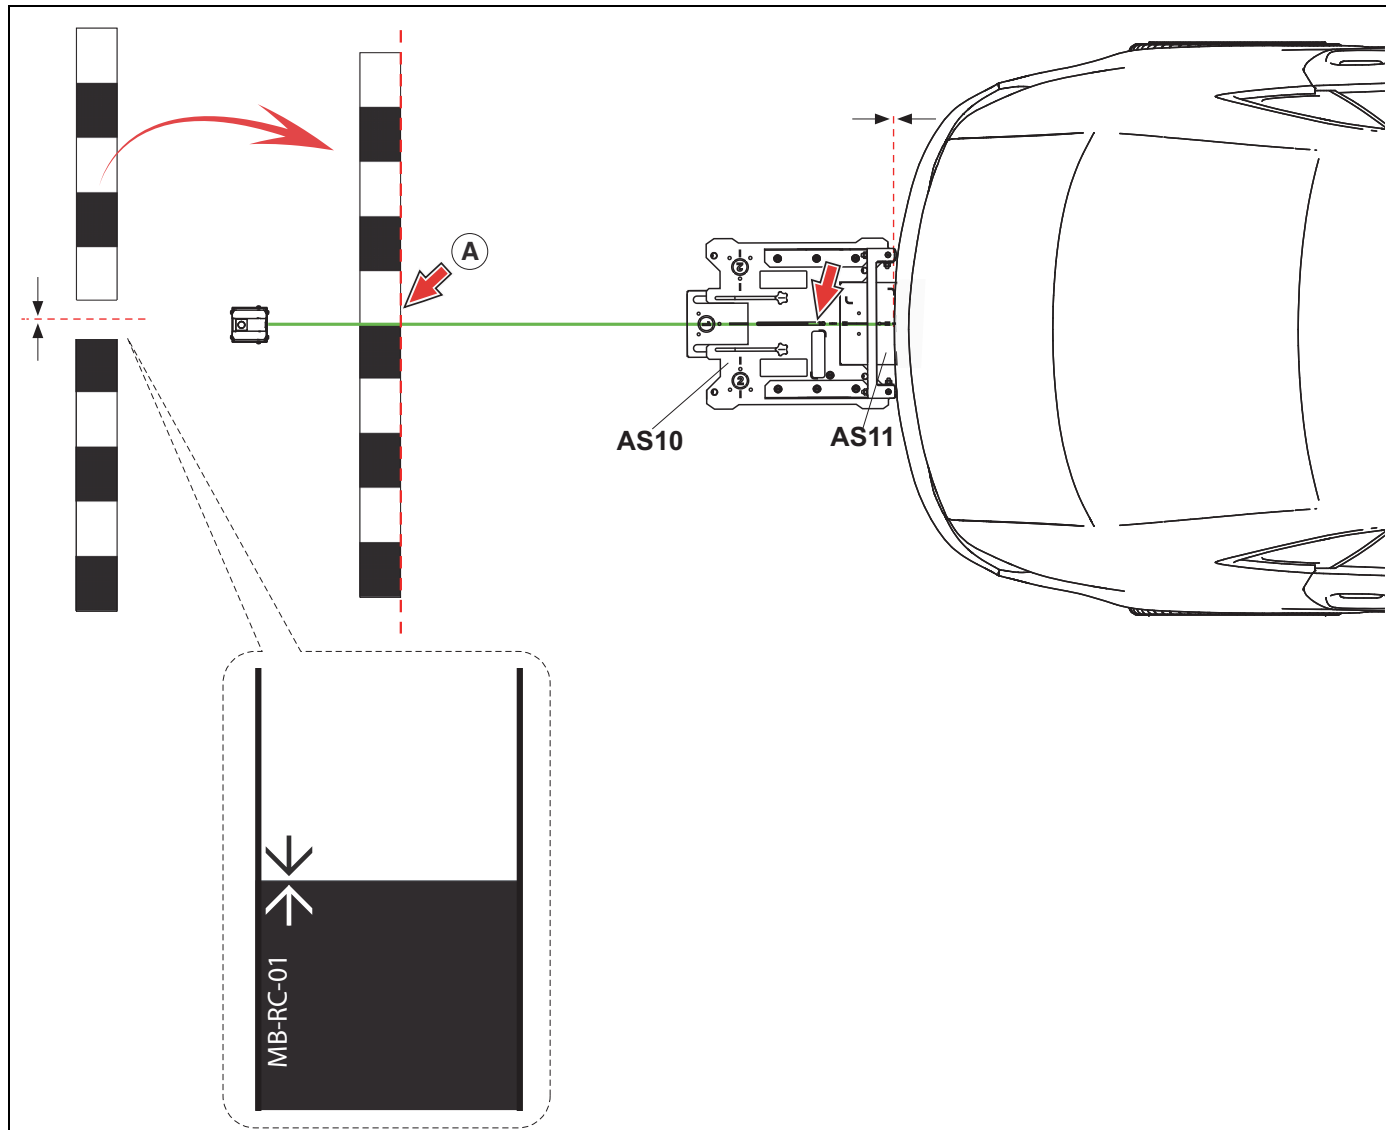

Figure 5-10
4. Align and position the two piece target as shown in Figure 5-10, on the floor. Align the forward edge of the targets with the "A" mark on floor.
5. Set the laser assembly (removed from AS10 fixture) behind the target, and align the laser with the center alignment slot in the AS11 alignment plate. Then move the targets to align the center of the targets (split edge) with the laser (Figure 5-10).